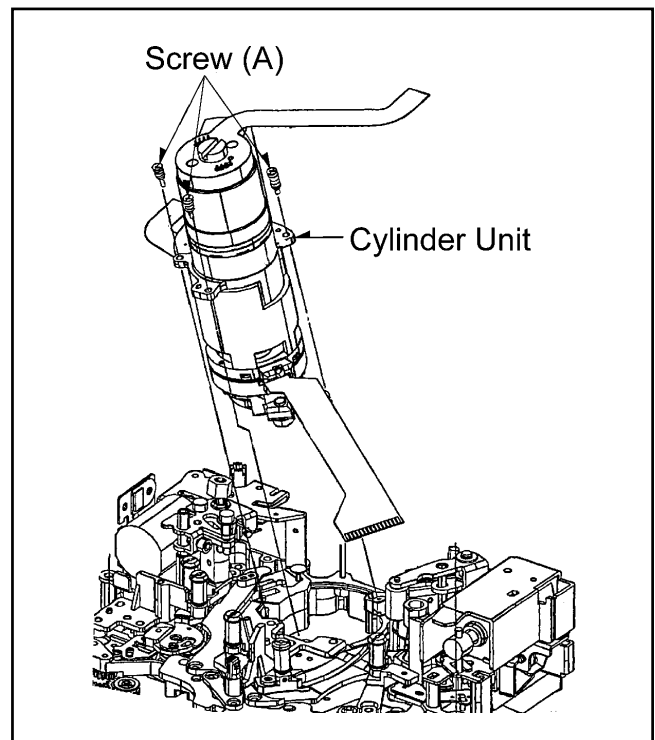

Figure 2-1-1
3. Unscrew the 3 screws (A) which have spring from the Cylinder Unit as shown as Figure 2-1-1, then remove the Cylinder Unit without touching any mechanical parts.